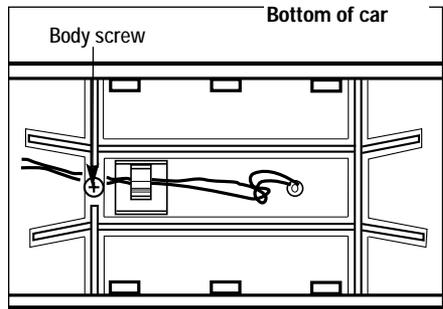

Figure 11. Screw location
2. Remove the body screw from the bottom of the car. As illustrated in Figure 11, this screw is located in the center of the car, closest to the truck with a roller pick-up.